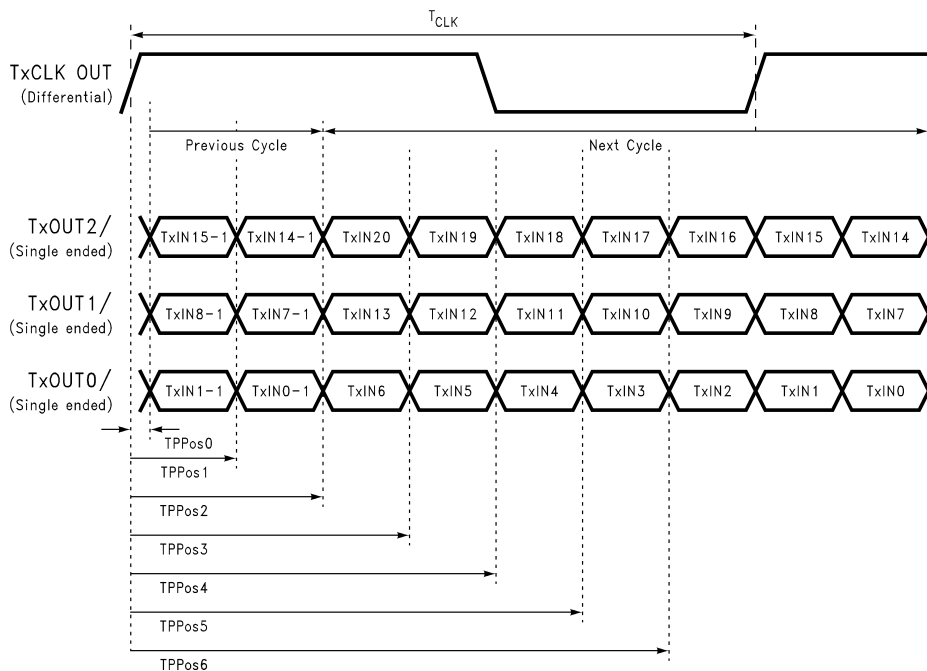

Figure 12. Transmitter LVDS Output Pulse Position Measurement - DS90C365A
| TPPos0 | Transmitter Output Pulse Position (Figure 12) (1) | f = 25MHz | -0.45 | 0     | +0.45 | ns |
| TPPos0 | Transmitter Output Pulse Position (Figure 12) (1)   | f = 40 MHz  | -0.25 | 0                 | +0.25 | ns   |
| TPPos0 | Transmitter Output Pulse Position (Figure 12) (1)   | f = 65 MHz  | -0.20 | 0                 | +0.20 | ns   |
| TPPos0 | Transmitter Output Pulse Position (Figure 12) (1)   | f = 87.5 MHz  | -0.20 | 0                 | +0.20 | ns   |